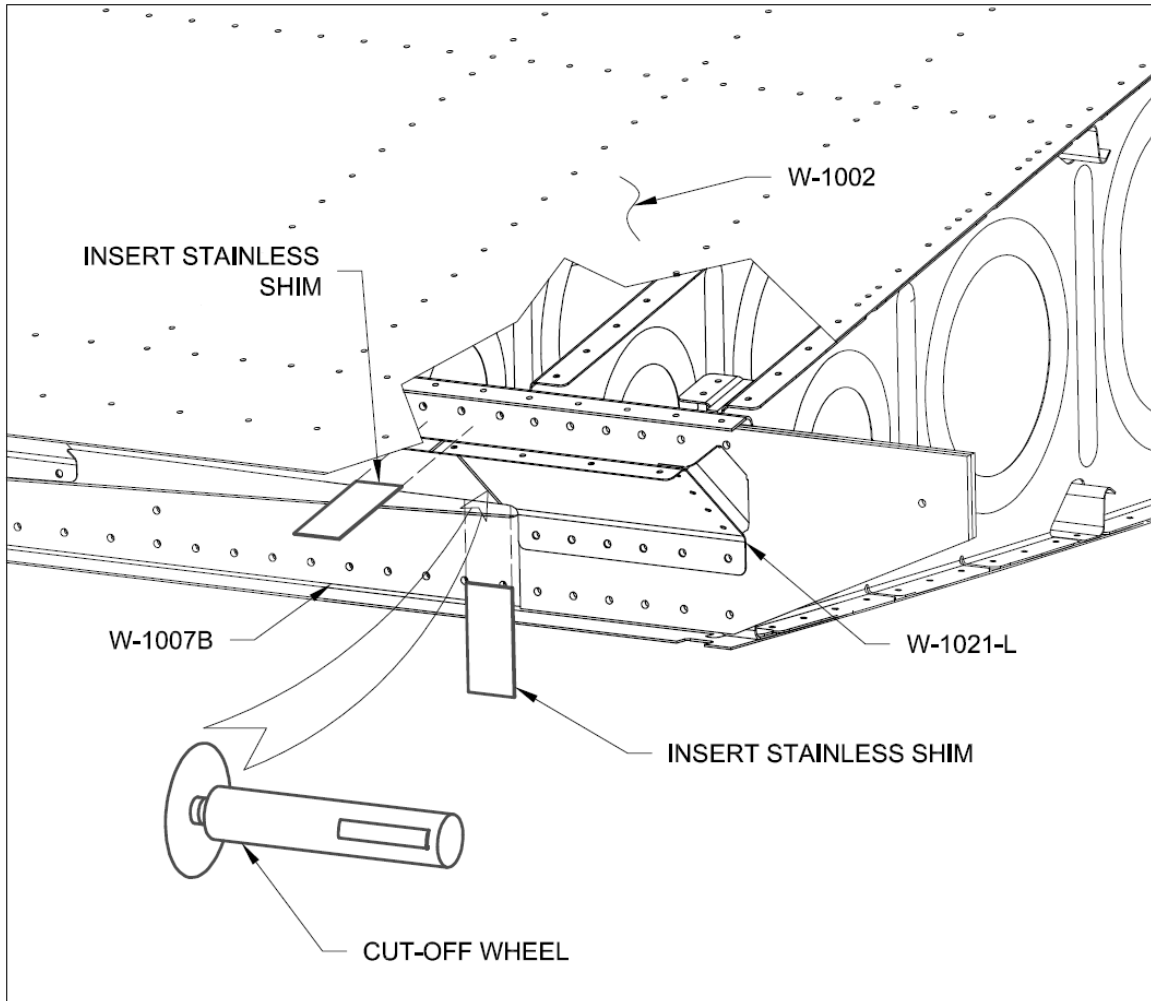

FIGURE 3: CUTTING THE W-1021-L
Insert the stainless shims between the W-1021-L and W-1007B, and between the W-1021-L and W-1002 to protect the skin and spar while cutting the W-1021-L in the following step. See Figure 3. If necessary, the stainless shims can be secured with double-sided tape.
Step 14: Being careful to not cut the spar or the skin, use the grinder with an abrasive cut-off wheel to separate the W-1021-L along the line previously marked. See Figure 3.